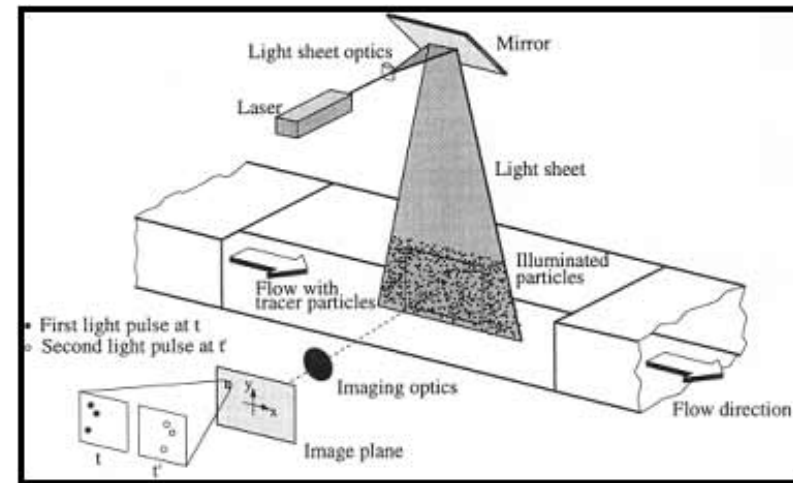

Fig.1: PIV optical system
- PIV determines the flow fields over global domains by measuring the motion of small markers seeded in the flow. The locations of the markers at various instants are recorded optically: these particles are illuminated by a pulsed sheet of laser light, which is scattered by the markers into a photographic lens (Fig. 1).